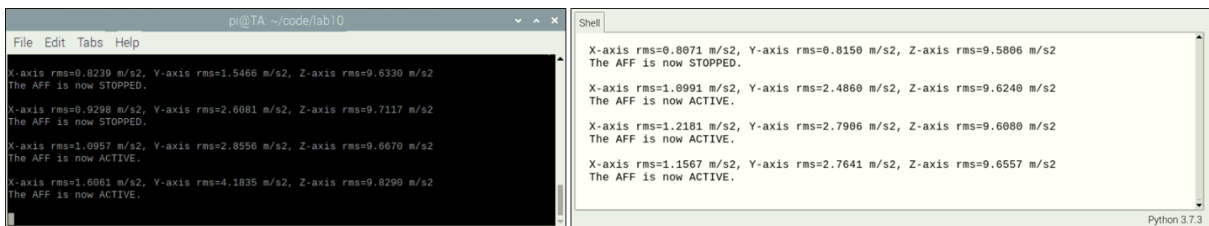

Figure 3 Check the rms values and the execution of AFF
- The example of the result is shown in Figure 3.